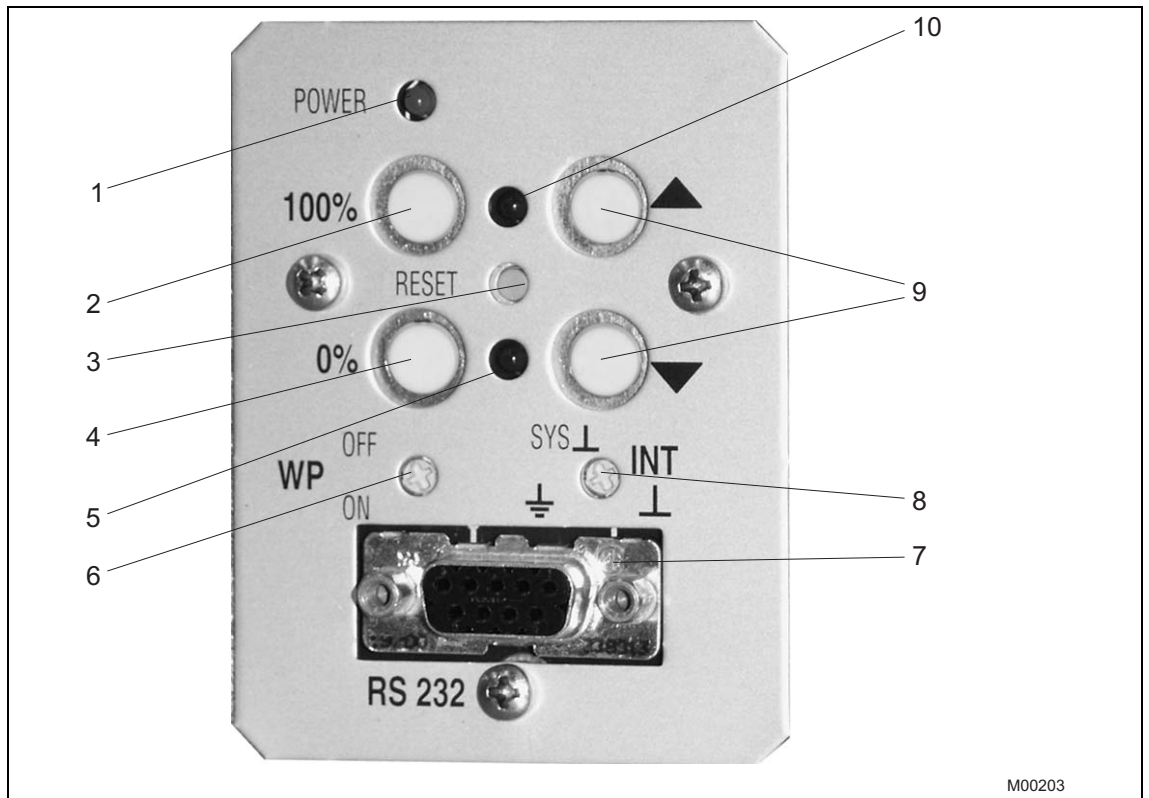

Fig. 18: Commissioning and service field (ISF)
(See page 25 Fig. 18: pos. 8)
3. Switch the electronic unit to the "Device setup" operating mode. Press and hold both travel buttons (9) at once for approx. 5 s until both LEDs (items 5 and 10 in **Fig. 18**) flash in sync at a rate of 4 Hz.